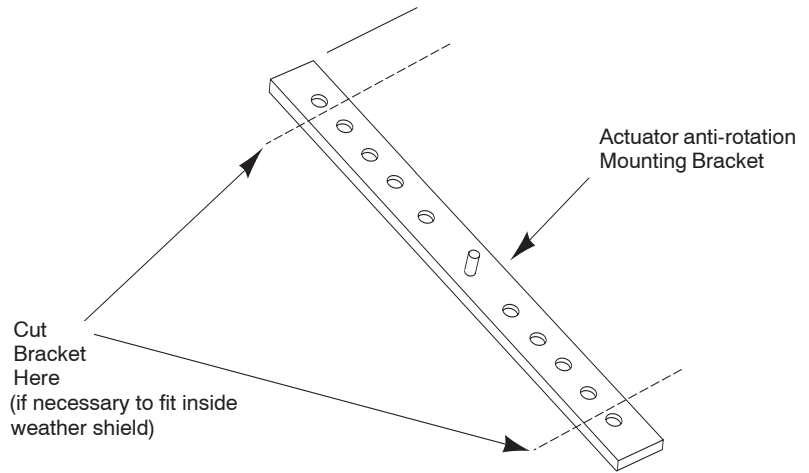

Figure-1 Shortening the Actuator Mounting Bracket.
6. Shorten both ends of the damper actuator's anti-rotation mounting bracket, if necessary to fit inside weather shield, by cutting it at each end (See Figure-1). Mount the damper actuator onto the base mounting plate. Install any accessories onto the actuator, as applicable.